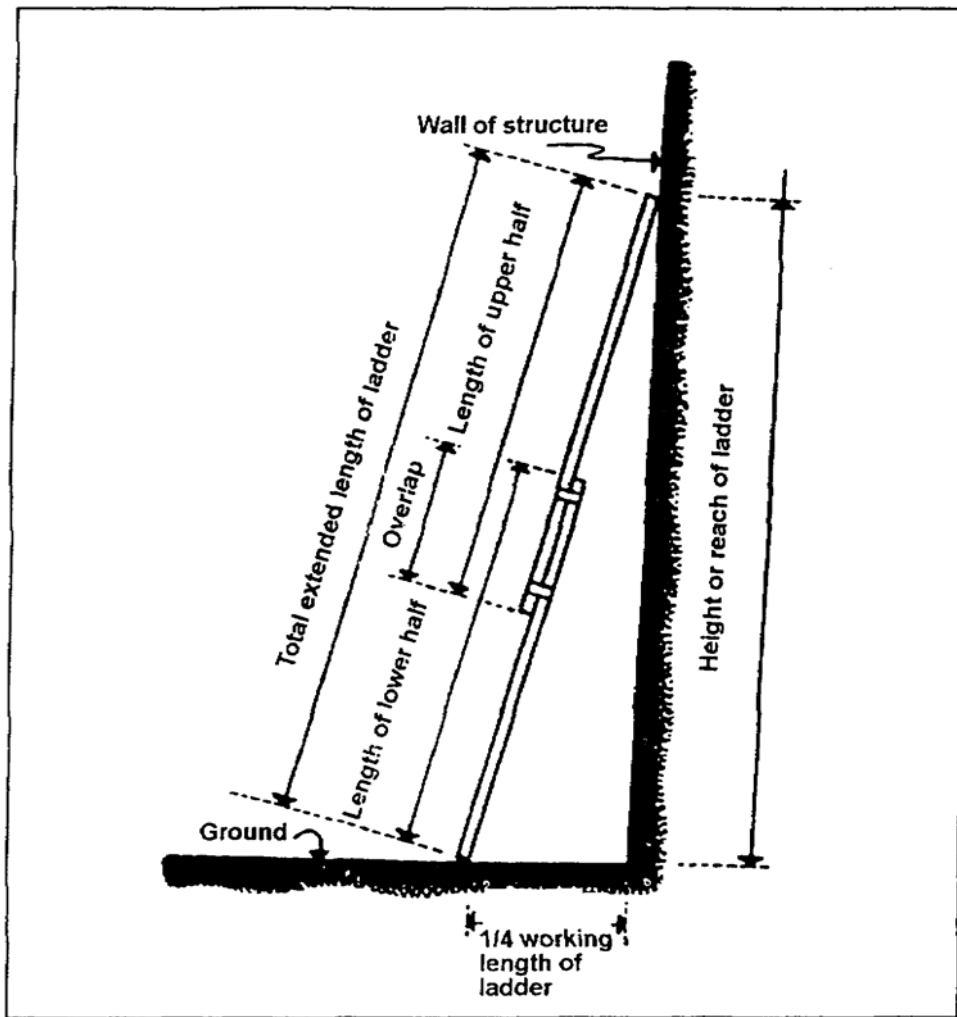

Figure 1-7. Ladder stability
- Use extension ladders that have a minimum overlap of 15 percent for each section (Figure 1-7, page 1-10).
- Place ladders so that the horizontal distance from the support structure to the ladder foot is at least one-fourth of the working length as shown in Figure 1-7. Be sure that the ladder is securely in place.